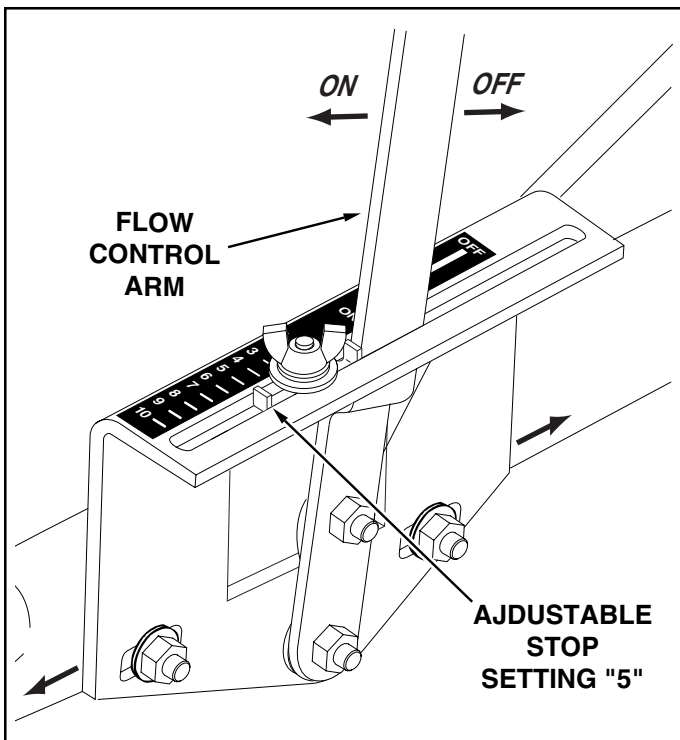

FIGURE 12
21. Position the flow control mounting bracket (figure 12).
(Refer to figure 12 on page 7.)